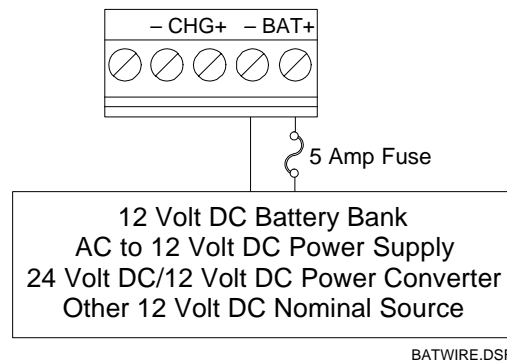

Figure 3-5. 12 Volts dc Power Supply and BAT+ / BAT– Wiring
4. Insert each bared wire end into the clamp beneath the BAT+ and BAT– termination screws (refer to Figure 3-5).